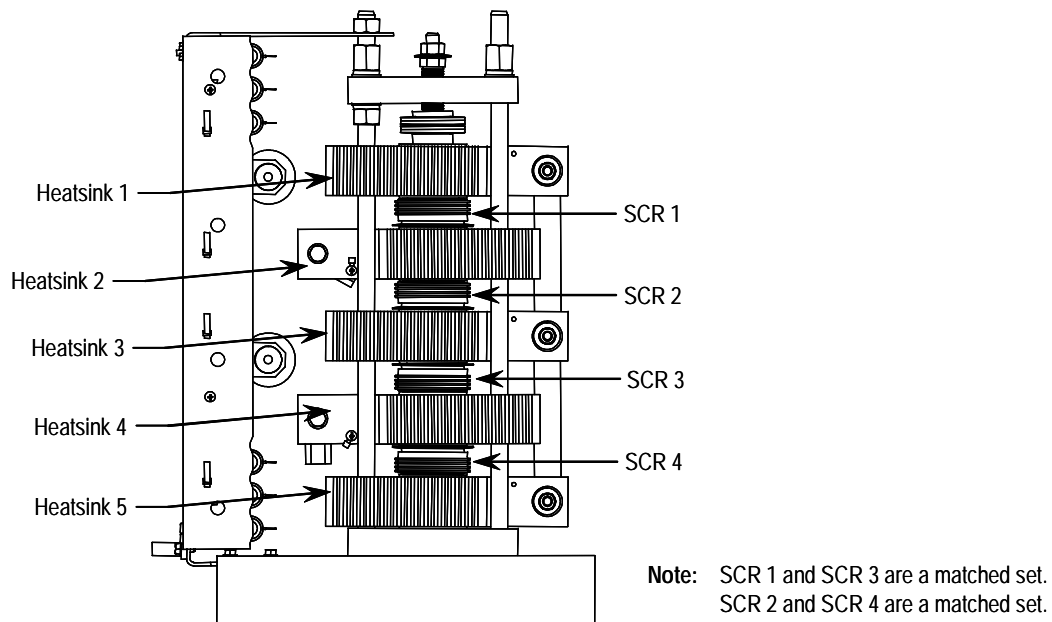

Figure 9.8 – Power Module Assembly (one phase) • 3300/4160 V, 180/360 A
1. Remove the shorting bar. Measure the resistance between adjacent heatsinks to determine which SCR(s) is (are) shorted. Assemblies with four or six SCRs must use matched sets. See Figures 9.8 and 9.14 for the position of the matched sets. If an SCR from each set is shorted, all of the SCRs in the module must be replaced. A properly functioning SCR will measure in excess of 100 kilohms from anode to cathode, and 10-40 ohms from gate to cathode.